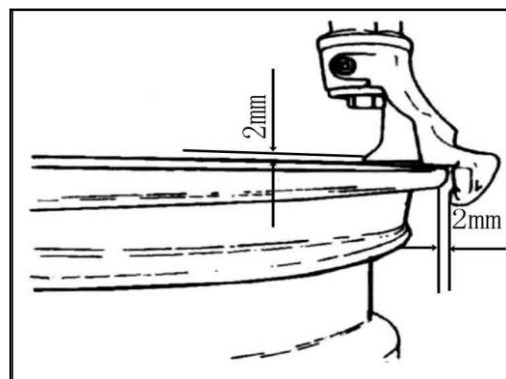

FIG11
- d) Position the hexangular shaft (FIG 3-3) to the working position to make the demount tool close to the rim of the wheel. And use the hand wheel (FIG 3-21) to push against the rocker arm and then use the lock handle (FIG3-20) to lock. The demount tool will automatically move a little of gap (FIG11).